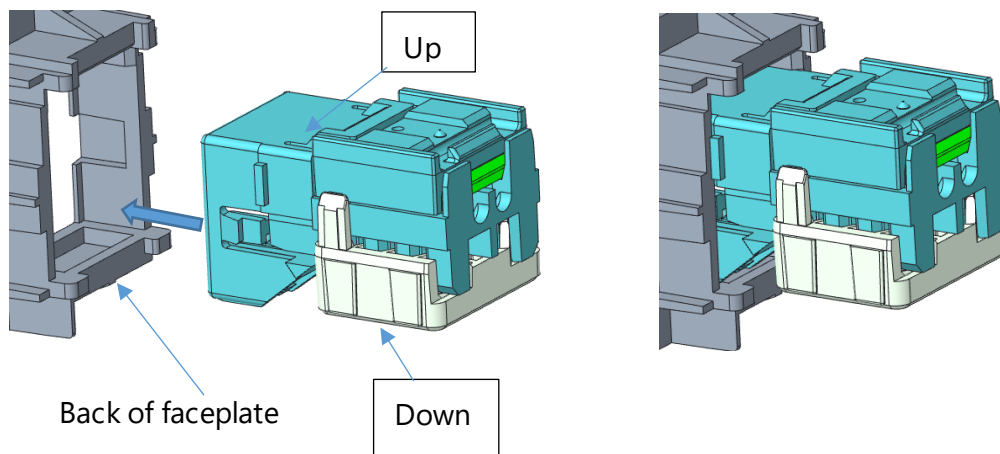

Figure 6
- Install the modular jack according to the assembly direction of Figure 6.